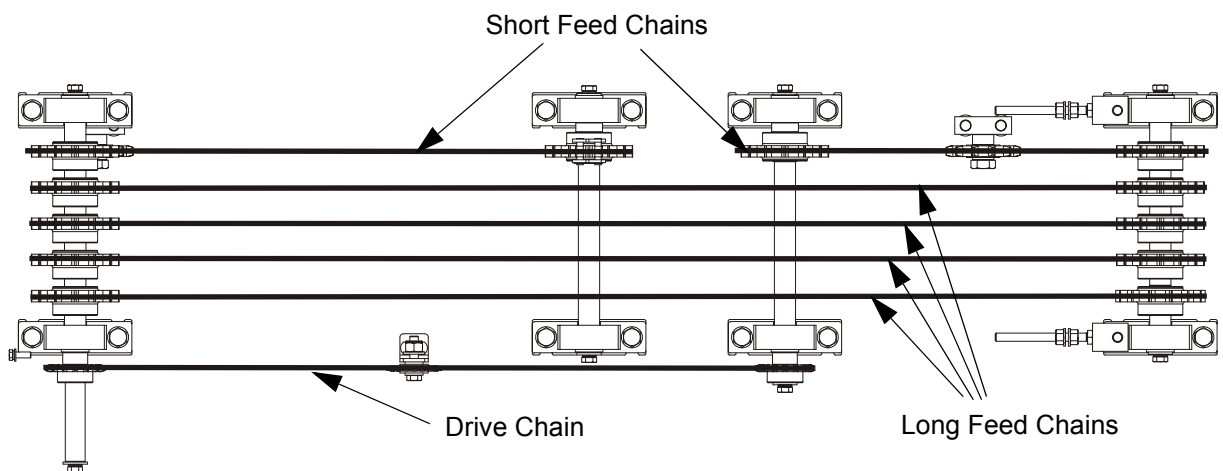

FIG. 3-7
7. Replace the worn chain or chains. Route the new chains as shown on Figure 3-7